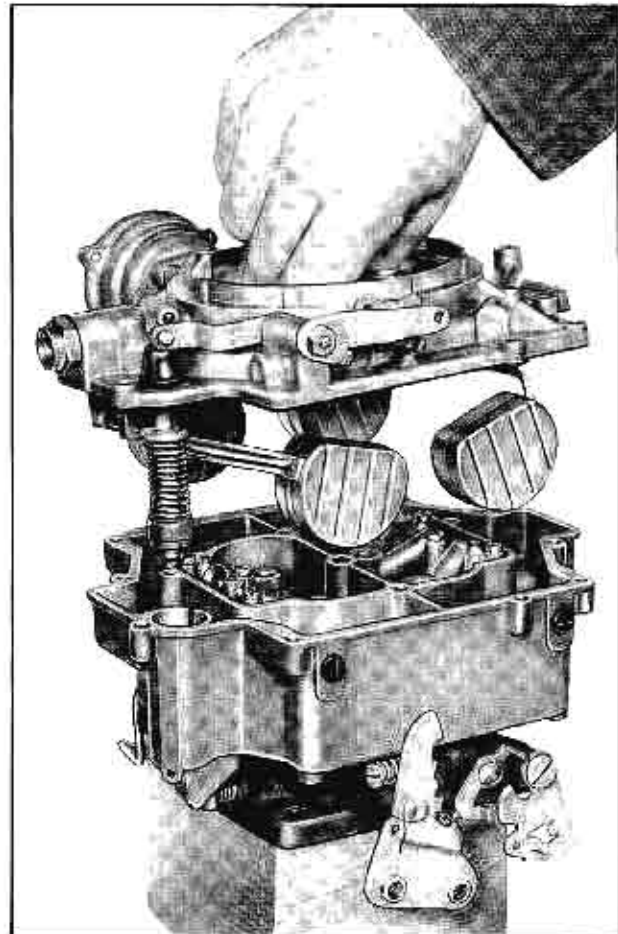

Fig. 12-44 Removing Bowl Cover
7. Lift bowl cover assembly straight up out of the bowl by gripping air horn section as shown in Fig. 12-44. Be careful not to bend float assemblies.